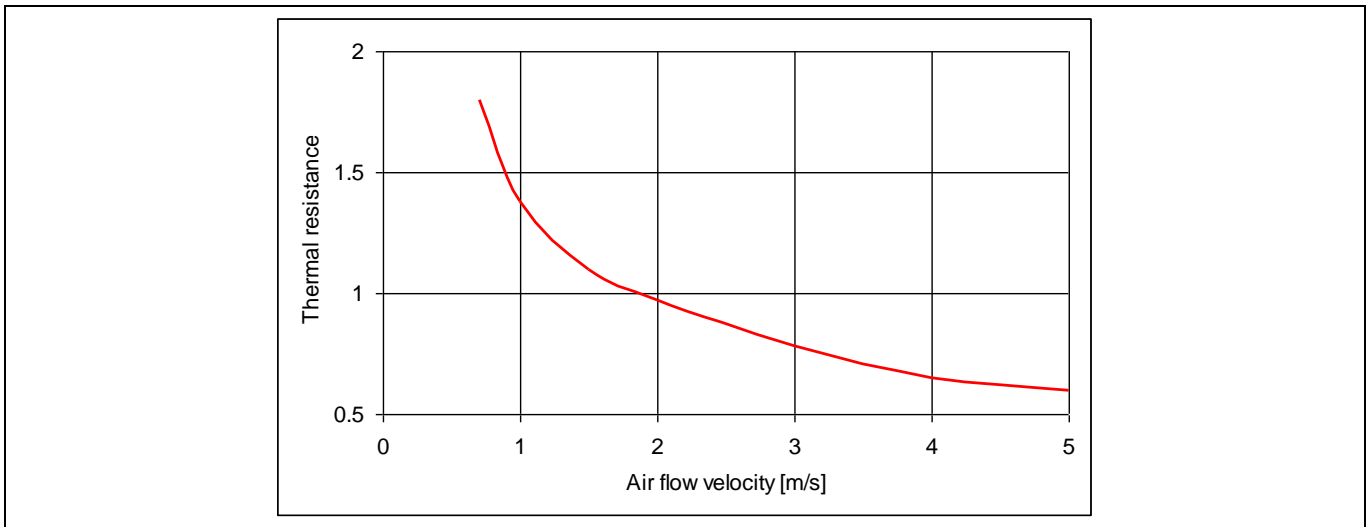

Figure 40 Thermal resistance as a function of the air flow velocity
- **Heat transfer coefficient (aerodynamics):** This coefficient is strongly depending on the air flow velocity as shown in Figure 40. If there is no externally induced flow, one speaks of natural convection. Otherwise it is forced convection. Heatsinks with very small fin spacing do not allow a good air flow. If a fan is used, the fin gap may be lower than for natural convection, as the fan forces the air through the space between the fins.